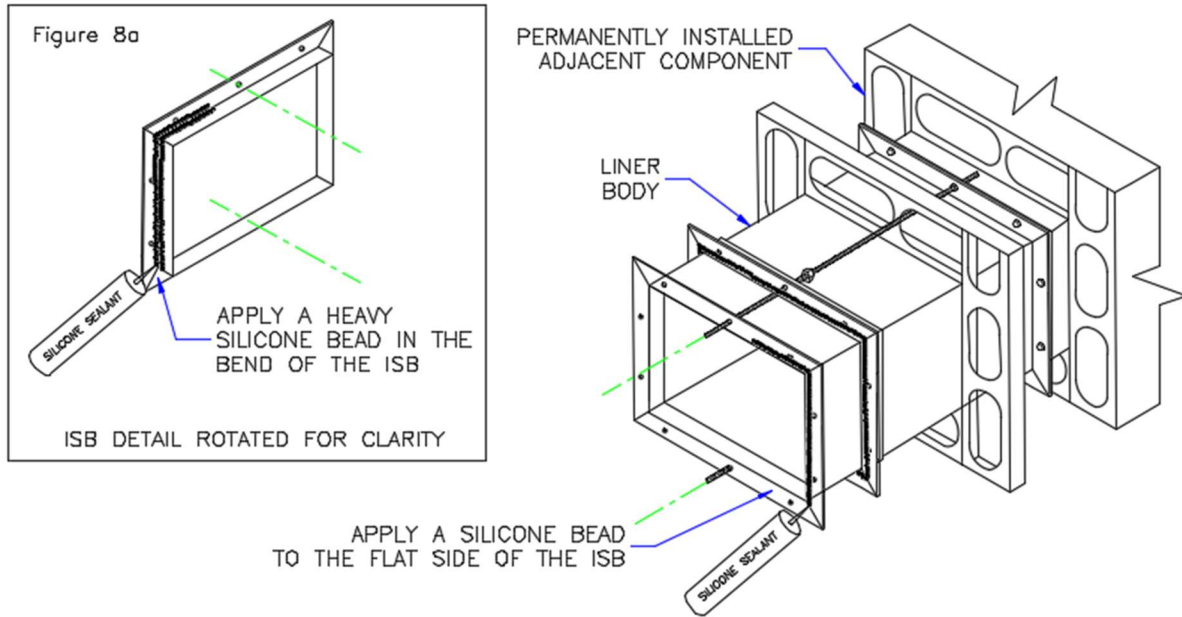

Figure 8: Insert the Internal Support Bracket into the cut end of the Liner Body and apply silicone to both.
15. Then place another bead of silicone on the flat side of the ISB. (*See figure 8*)